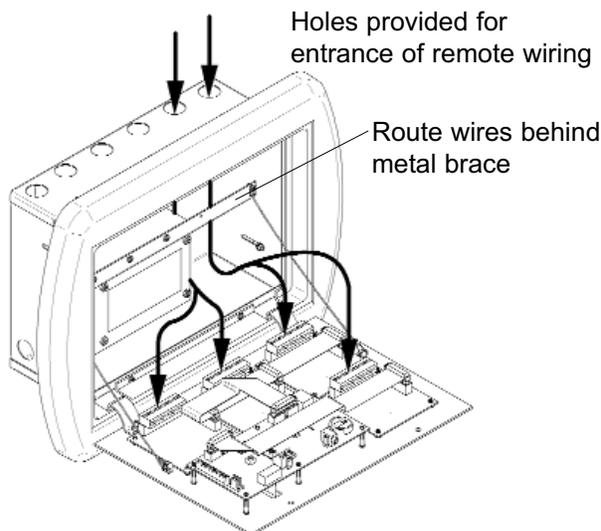

Figure 23: Remote Sensor Wire Routing
2. Route each pair of sensor wires as shown in Figure 23 to appropriate digital display module. Each digital display module is labeled with the gas type. Verify the appropriate remote sensor wires are connected to correct digital display module.